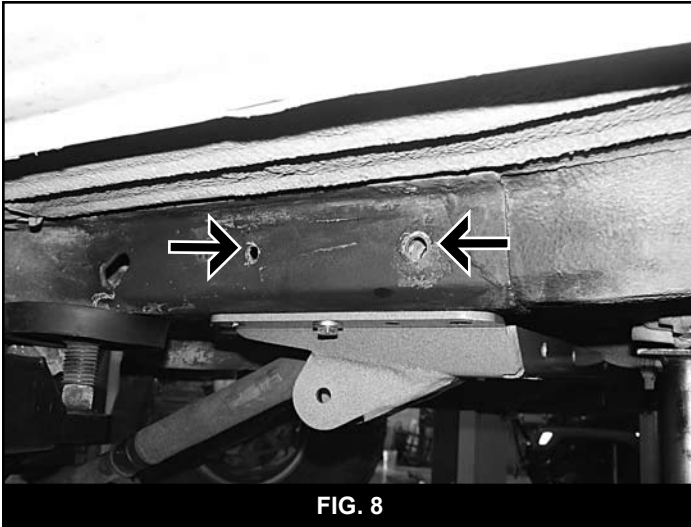

FIG. 8
22. With the rear thru-hole drilled to 7/16", go back with a 5/8" drill (or a uni-bit works well too) and drill just the outside layer of the frame. You will now have a 7/16" and a 5/8" hole in the outside of the frame and a single 7/16" hole on the inside (Fig 8).